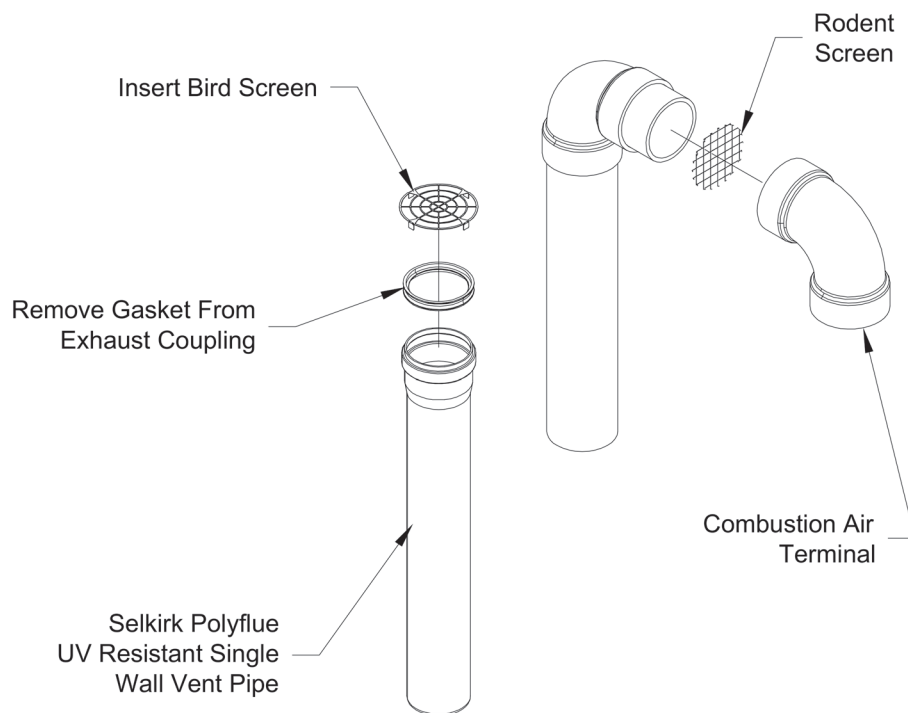

Figure 7.42: Installation of Selkirk Polyflue UV Resistant Single Wall Vertical Terminal
- See Figure 7.42 for the proper orientation of twin pipe vertical terminals.
- A 180° bend (or two 90° elbows) are installed on the top of the air intake pipe. If two 90° elbows are used, the rodent screen provided can be installed between them (Figure 7.42). If a 180° bend is used, install the rodent screen in the open side of the bend, using a ring made of PVC pipe. If desired, the termination fittings can be attached to the end of the intake pipes with field supplied stainless steel screws so that they can be later removed for cleaning and inspection. If this is done, drill a clearance hole in these fittings and a tap hole in the end of the intake pipes to accept these screws.